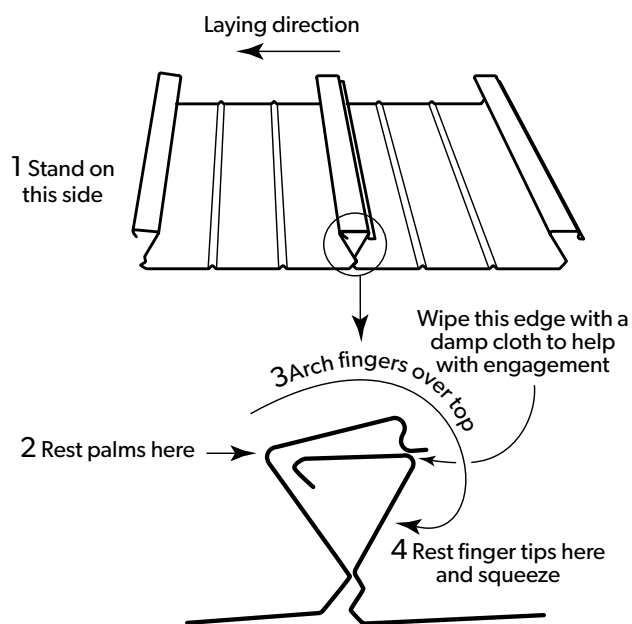

Figure 3: Engaging the ribs
7. Place the next sheet with its female (overlapping) rib on top of the male (underlapping) rib of the first sheet. Engage the ribs at the channel end for the first 100mm (Figure 3).